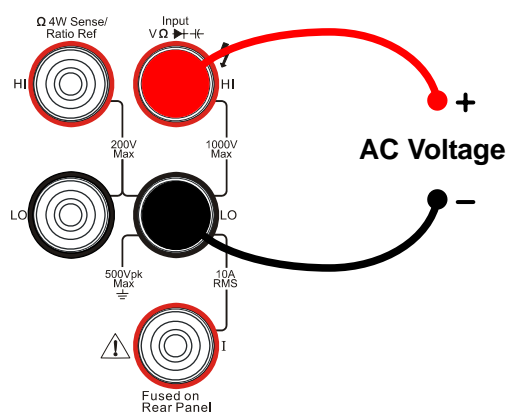

Figure 2-9
1. Connect test leads as Figure 2-9 shown. Red test lead connects the HI Terminal, Black test lead connects the LO Terminal.